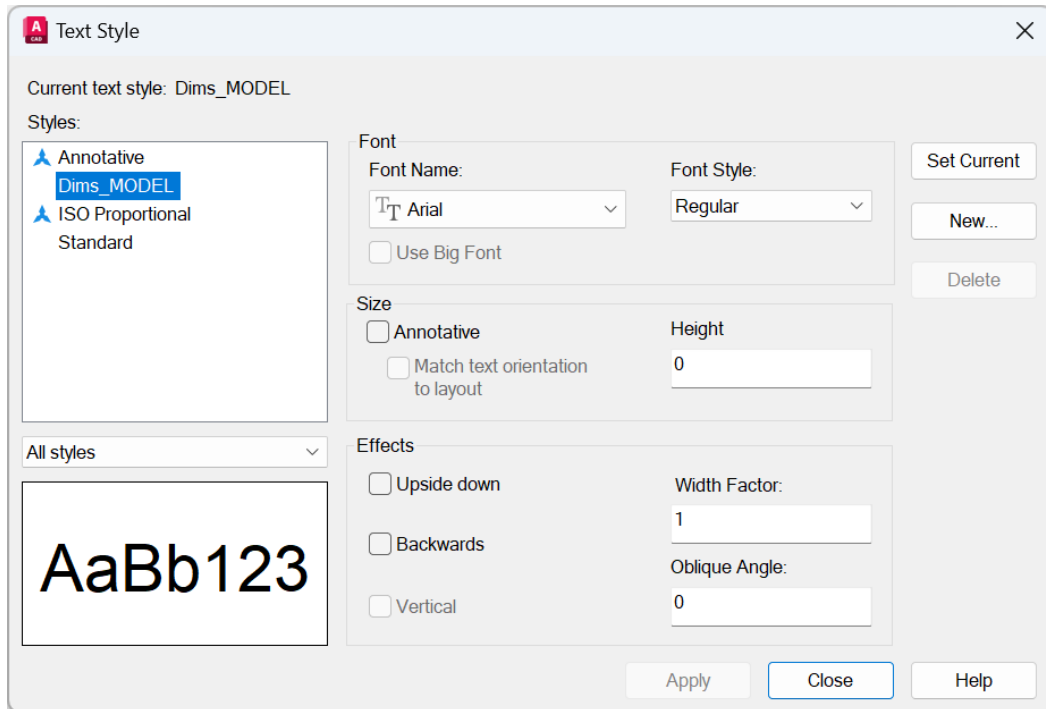

Figure 7.5: The Text Style dialog box with the `Dims_MODEL` text style highlighted
5. Type in the name `Dims_MODEL` and click on **OK**. You will be returned to the **Text Style** dialog box, with the **Dims\_MODEL** text style showing in the list. Click on the style name in the list to prepare it for property editing. It will be highlighted in *blue*, as shown in *Figure 7.5*.